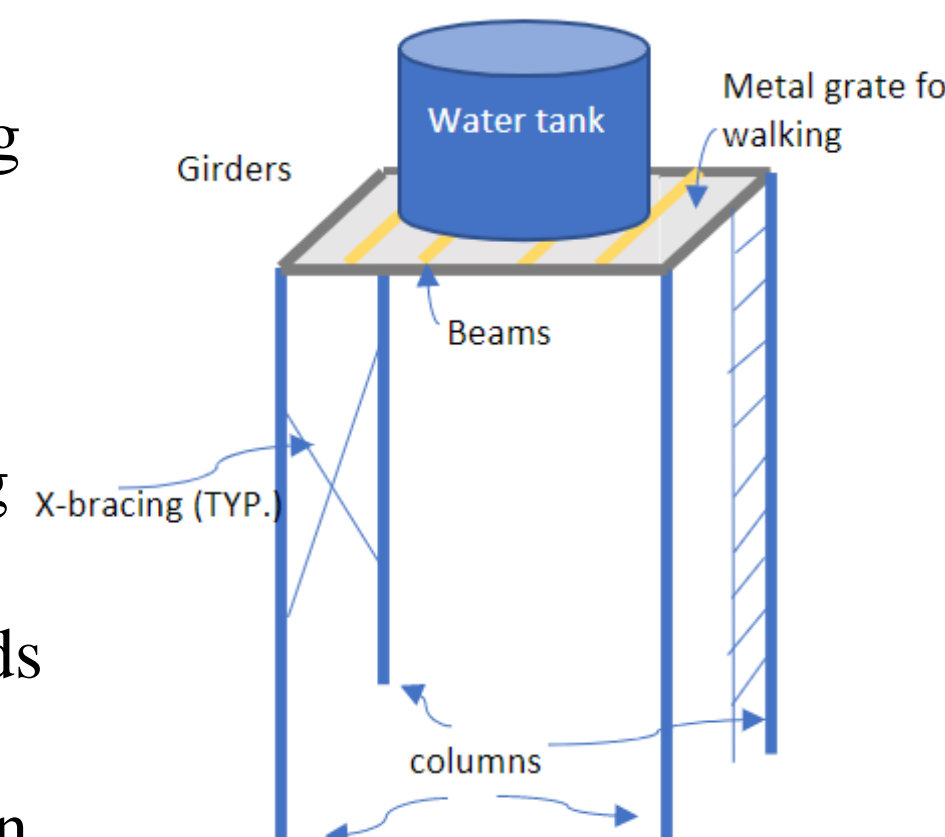

Figure 4: Components of Tower
- Cable bracing to eliminate buckling (see Figure 4)